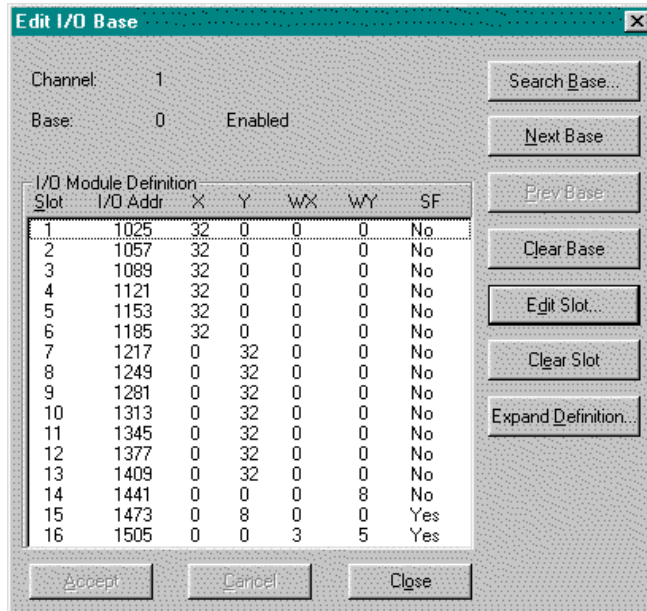

Figure 5.6
Result: The Edit I/O Base dialog box appears (Figure 5.6).
5. The Edit I/O Base dialog box becomes the active dialog box (Figure 5.6).
1. Start from Edit I/O Base dialog box (Figure 5.6).